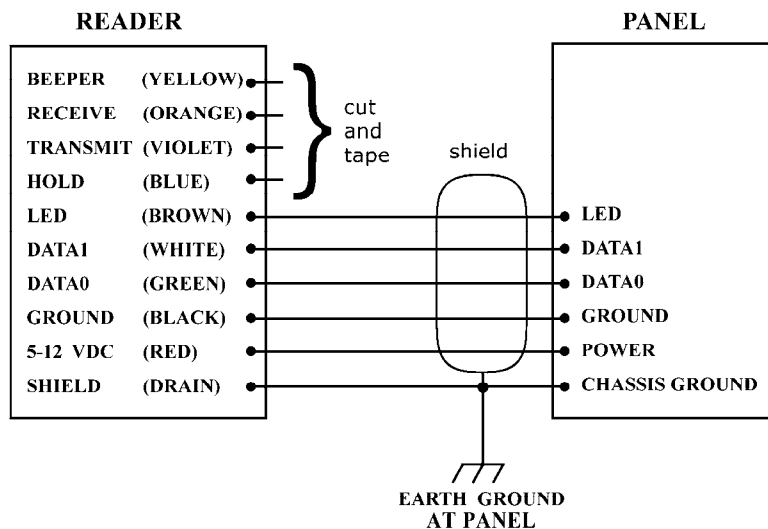

FIGURE 2: WIRING DIAGRAM (WIEGAND)
4. Connect the reader's cable to the access control panel as shown in Figure 2. Connect the **yellow** wire only if used for Beeper control by the panel. Connect the **blue** wire only if used for Hold control by the panel. **Do not connect** the **orange** and **violet** wires to anything. **Tape or cap all unused wires singly.**
Note: The number of conductors depends upon use of optional features – LED, Beeper and Hold. See Figure 2.